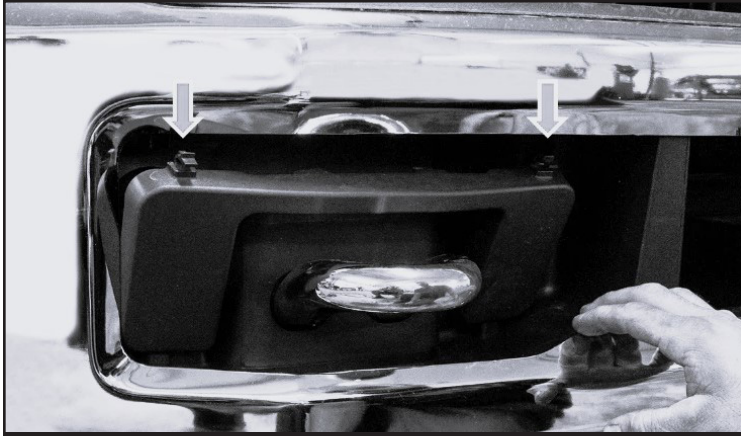

FIGURE 1 - STEP 2
2. Release the two tabs per plastic cover that hide the bolts by the front tow hooks and remove. **SEE FIGURE 1**